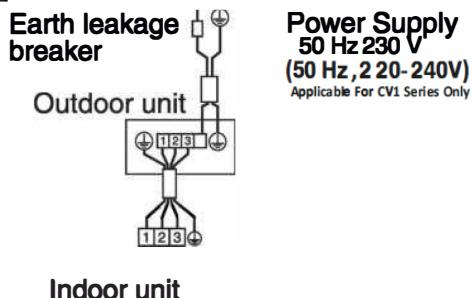

Fig. 29
- **Pair type:** 1 indoor unit to 1 outdoor unit. (standard system) (Refer to Fig. 29)